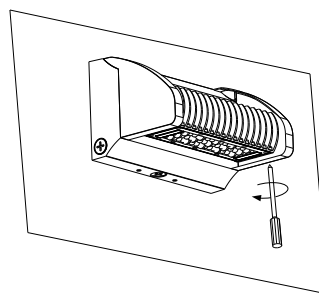

Figure 1-6
- 6.After installation, tighten the screws.(Figure 1-6)